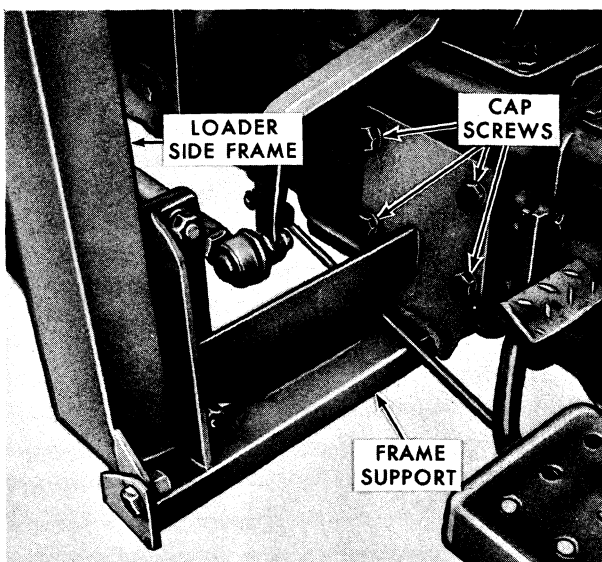

Figure 16
1. Mount the frame support bracket to the tractor housing as shown in Figure 16, using four 15 mm X 25 mm metric cap screws and lockwashers. Repeat this procedure on the other side.
5. Mount the side frames to the frame supports, Figure 16, with three 5/8" X 1-1/4" NC cap screws, lockwashers and nuts on each side.